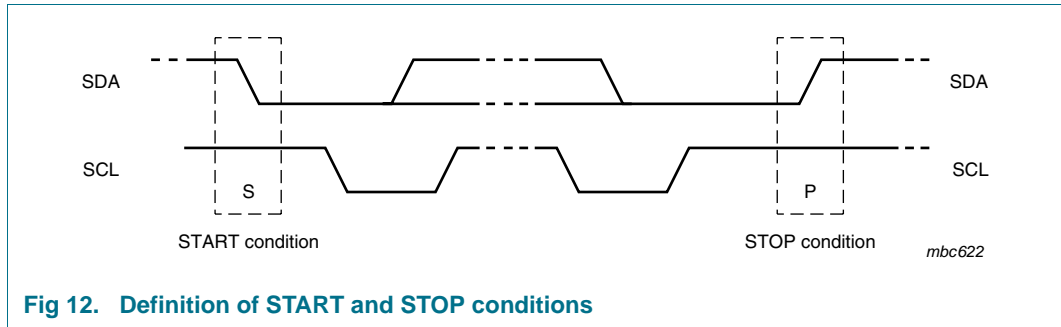

Fig 12. Definition of START and STOP conditions
Both data and clock lines remain HIGH when the bus is not busy. A HIGH-to-LOW transition of the data line while the clock is HIGH is defined as the START condition (S); see Figure 12. A LOW-to-HIGH transition of the data line while the clock is HIGH is defined as the STOP condition (P).